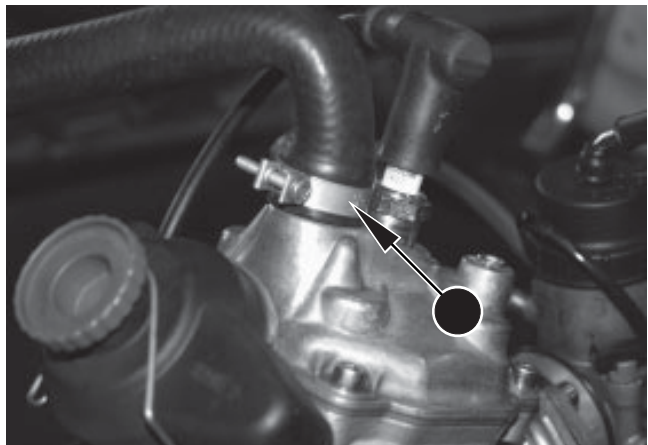

Fig. 8
- ⇒ Detach the radiator hose from the mounting on the cylinder head cover, after first unscrewing the clamp, as shown in Fig. 8.